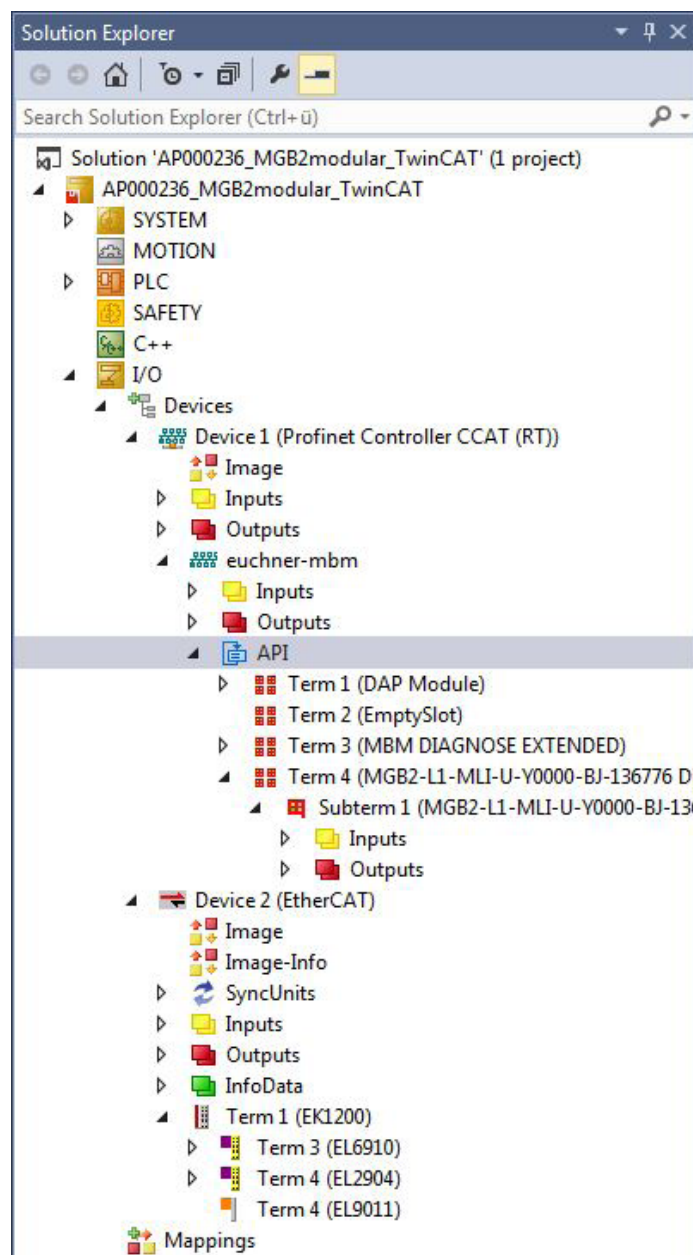

Figure 7: Structure of the modules used
5. Then scan the real configuration. After completion of the scanning process, the hardware configuration appears as shown in Figure 7.